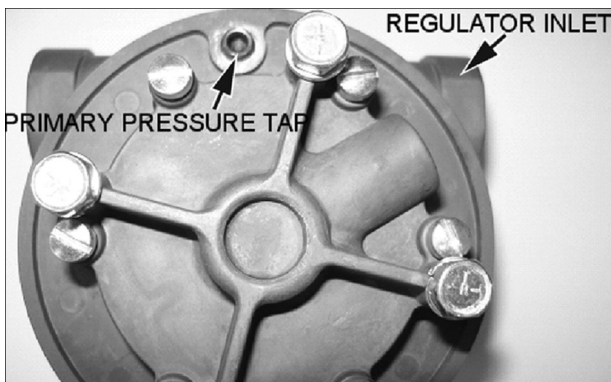

Figure 35. Primary Stage Test Connection
1. Remove the primary test port plug from the side of the regulator and install the 1/16" NPT hose barb fitting (Figure 35).
2. Connect a compressed air line (shop air ~100psi) to the liquid propane fuel inlet of the N-2007 regulator (Figure 35).
7. Adjust the idle mixture screw on the mixer until a reading of 40-45% is reached for the FTV Duty Cycle in Closed Loop Idle (Figure 35).
13. Adjust the idle mixture screw on the mixer until a reading of 50-55% is reached for the FTV Duty Cycle in Closed Loop Idle (Figure 35).